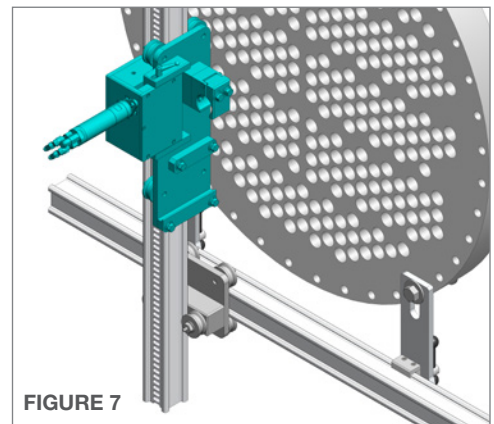

FIGURE 7
- Loosen the **Quick Adjust Handle** and pull the gearbox away from the carriage plate. This will allow the **Vertical Drive Carriage** to slide onto the rail without pneumatic power to rotate the drive. Center the carriage on the vertical rail and push the gearbox back toward the carriage plate. This will engage the gear into the rail slots. Verify the gear is engaging the slots correctly and retighten the adjustable handle. **(Figure 7)**